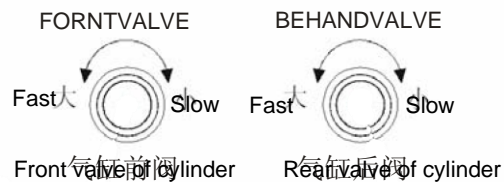

Figure 1
- (1) Connect the air source and slide the air inlet collar towards the machine.
- (2) Check whether the air pressure meter is in the specified range (roughly reading in the “12-3 o'clock” range). If not, draw the air pressure knob outwards to unlock, rotate the pressure regulator knob until the pressure is in the specified range (0.4-0.5Mpa) and push the knob back in to lock.
- (3) Use the Auto/Semiauto switch to set the filler to the desired operation method.
- (4) To make an adjustment, you can loose the locking handle on the adjustment sensor, rotate the handwheel, take note of the value on the position display and fasten the handle.
- (5) Adjust the front valve (for adjusting drawing speed) and behind valve (for adjusting filling speed) as shown in Figure 1 to get reasonable drawing and filling speed.